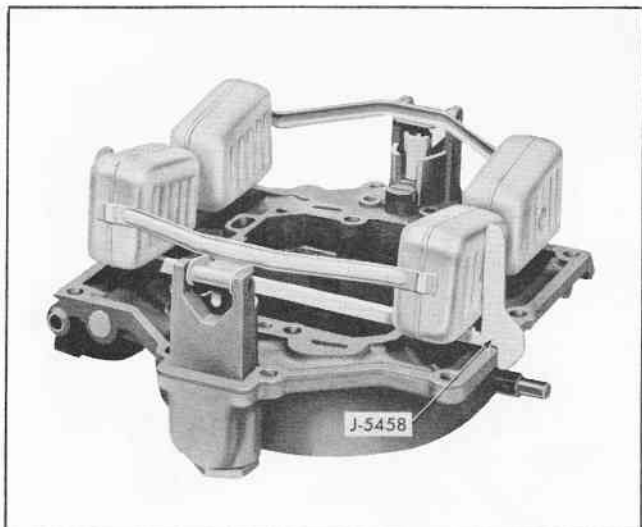

Fig. 24 Float Gauge in Position for Checking Floats
- a. Lateral Adjustment: Place float gauge J-5458 under center of float with notched portion of gauge fitted over edge of casting. (Fig. 24) Sides of float should just clear the vertical uprights of float gauge. Adjustment should be made by bending arms of float.
- b. Vertical Adjustment: With float gauge in position, (Fig. 24) floats should just clear the horizontal portion of gauge. Vertical distance between top of float (at center) and machined surface of casting is 3/16" (gauge J-5458) for both primary and secondary floats. Adjust by bending at center portion of float arms. Remove gauge.